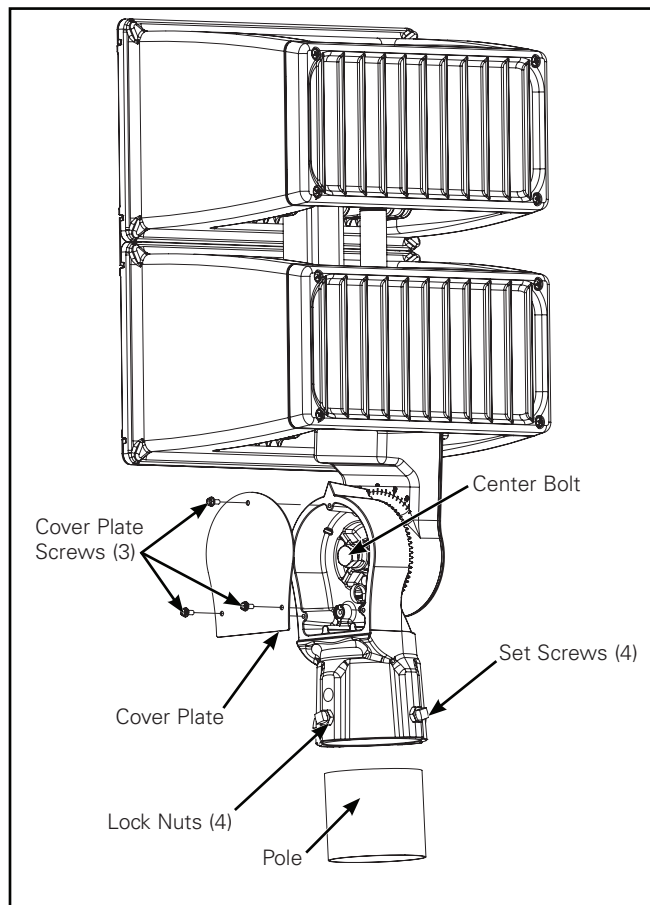
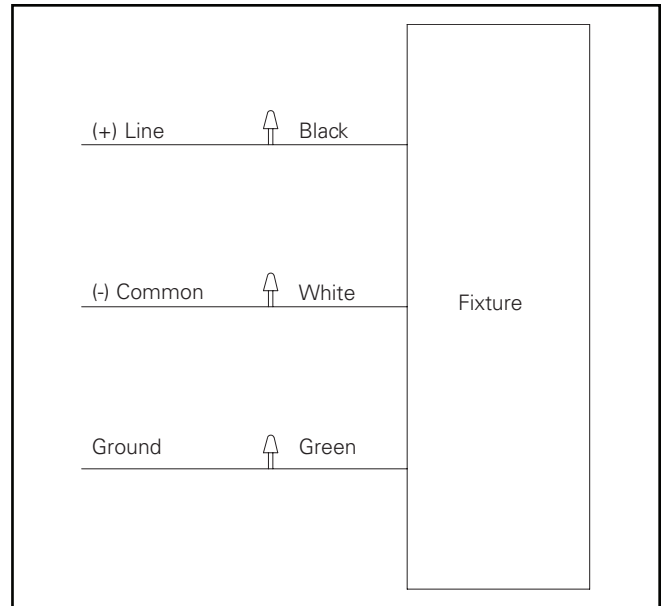

Figure 2.
Figure 4.
5. Refer to wiring diagrams for power connection. (Figure 4.)
Slipfitter Mounting (Figure 2.)
2. Remove (3) cover plate screws and cover plate with #2 Philips screwdriver. (Figure 2.)
5. Make wiring connections per wiring diagram and place connections into pole or mounting bracket. (Figure 4.)
6. Loosen (4) set screws and slide the slipfitter onto pole or mounting bracket.
7. Position luminaire into the desired direction and tighten (4) set screws to 10 ft-lbs. (Figure 2.)
8. Tighten lock nuts to 15 ft-lbs. (Figure 2.)
4. Refer to wiring diagrams for power connection. (Figure 4.)